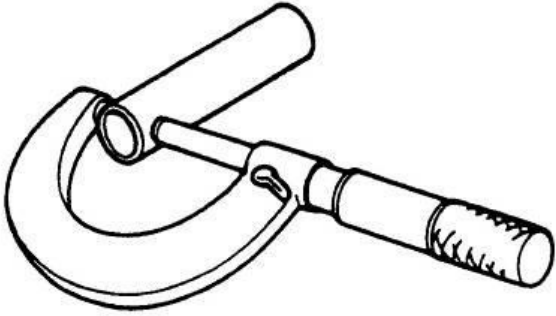

Figure 4-34: Measure Piston Pin
1. See Figure 4-34. Measure piston ring side clearance.